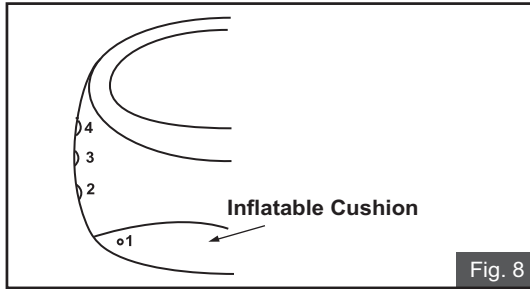

Fig. 8
4. Using the inflation hose, inflate the chambers according to the printed numbers 1,2,3,4. (See Fig. 8)